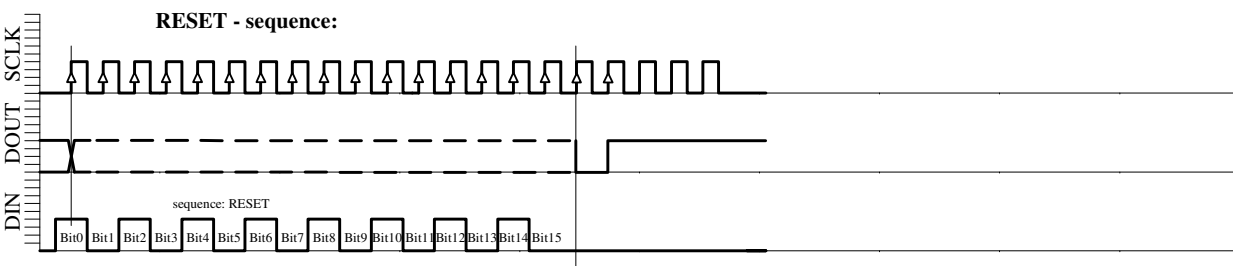

Fig. 6e: Reset sequence (21-Bit)
- RESET sequence (Figure 6e)
The RESET-sequence is special as its unique pattern is recognized by the module in any state. By consequence it can be used to restart if synchronization between the microcontroller and the MS5541-30C has been lost. This sequence is 21-Bit long. The DOUT signal might change during that sequence (see Fig. 6e). It is recommended to send the RESET sequence before first CONVERSION sequence to avoid hanging up the protocol permanently in case of electrical interference.